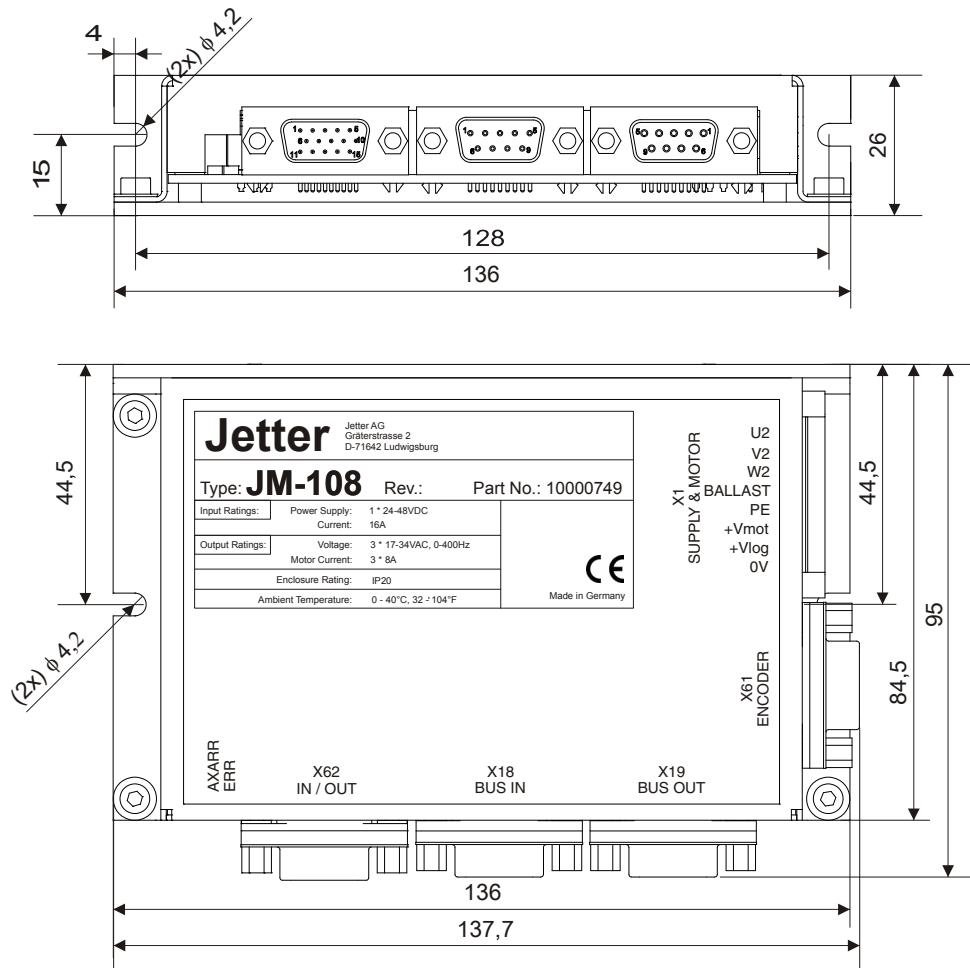

Fig. 4: Mounting holes in the enclosure
- The JetMove 108 has been designed for natural convection. Mount the JetMove in horizontal orientation (label on top) or vertical orientation (motor line below). In both cases, make sure there is a clearance of 25 mm between the JetMove and adjacent devices (see Fig. 4, Page 22).
- Mark on the panel two positions for the fastening screw threads of the JetMove 108 (see Fig. 4, Page 22).